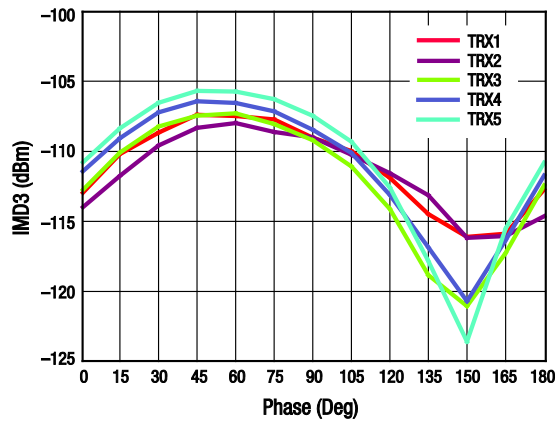

Figure 17. 3rd Order Intermodulation Distortion vs Phase, TRX Ports ($f_{FUND} = 1.95$ GHz, $f_{BLK} = 1.76$ GHz, $f_{RX} = 2.14$ GHz)
Figure 20 illustrates the test setup used to measure data for Figure 17. This industry standardized test is used to simulate the WCDMA Band 1 linearity of the antenna switch. A +20 dBm Continuous Wave (CW) signal, f_{FUND}, is sequentially applied to the TRX1 through TRX5 ports, while a -15 dBm CW blocker signal, f_{BLK}, is applied to the ANT port.